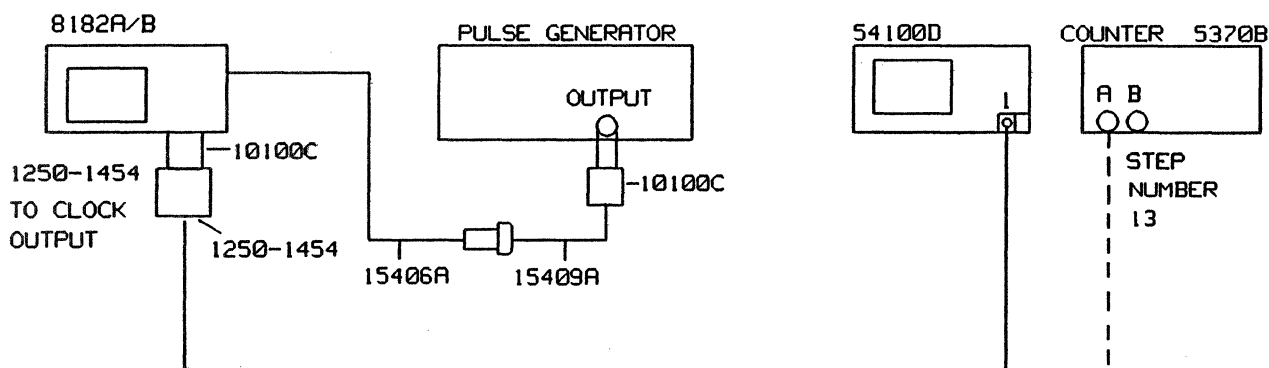

Figure 7-5. Test Setup for the Compare Window Width Test
5. Connect the equipment as shown in Figure 7-5.